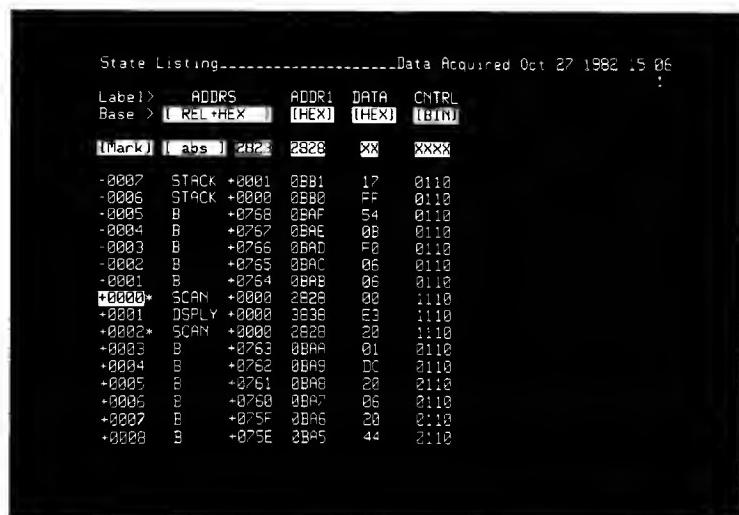

Figure 3-23. Trace List Using Values From Relocation Menu And Corresponding Absolute Values
6. Press the LIST key. The list display will show all of your labels on screen. There will be two columns of address information: one will have the relocatable object code modules, each with its own count of address space; and the other will have the absolute, hexadecimal values captured from the system under test. See figure 3-23.